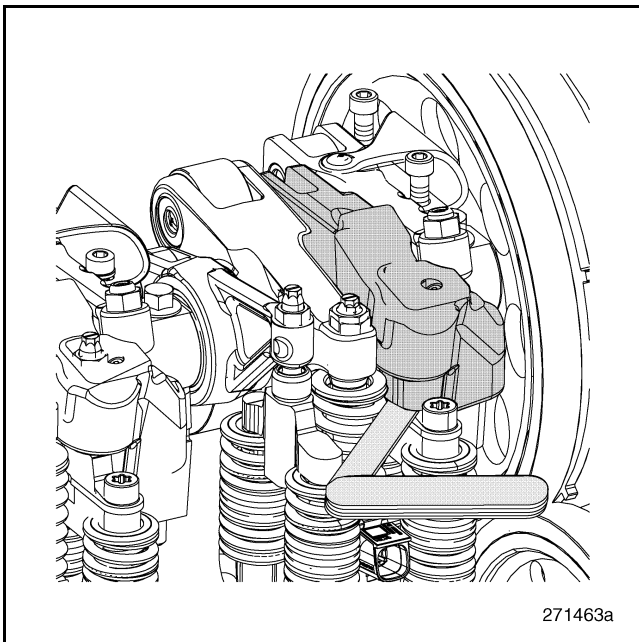

Figure 509 — Measuring Exhaust Valve Clearance
- Measure the clearance between the exhaust rocker arm piston and the shim on top of the valve yoke (bridge) as shown in Figure 509.